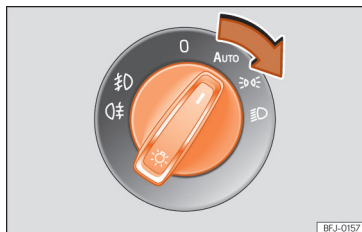

Fig. 79 Dash panel: light panel.
- Turn on the ignition and turn the light switch to the desired position >>> **Fig. 79**: